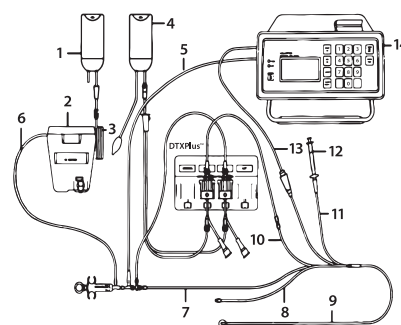

Figure 1. Closed Loop System Setup
ADDITIONAL ITEMS FOR SETUP (SEE FIG. 1)
12. Connect injectate sensor housing and Critikit™ assembly to the prefilled CVP lumen on the PA catheter (see Figure 1). Secure injectate system to ensure minimum movement of connections.
19. Connect the in-line sensor cable (Model SP4045 or other compatible cable) to injectate sensor housing by pushing spring assembly into housing and tightening (see Figure 1).